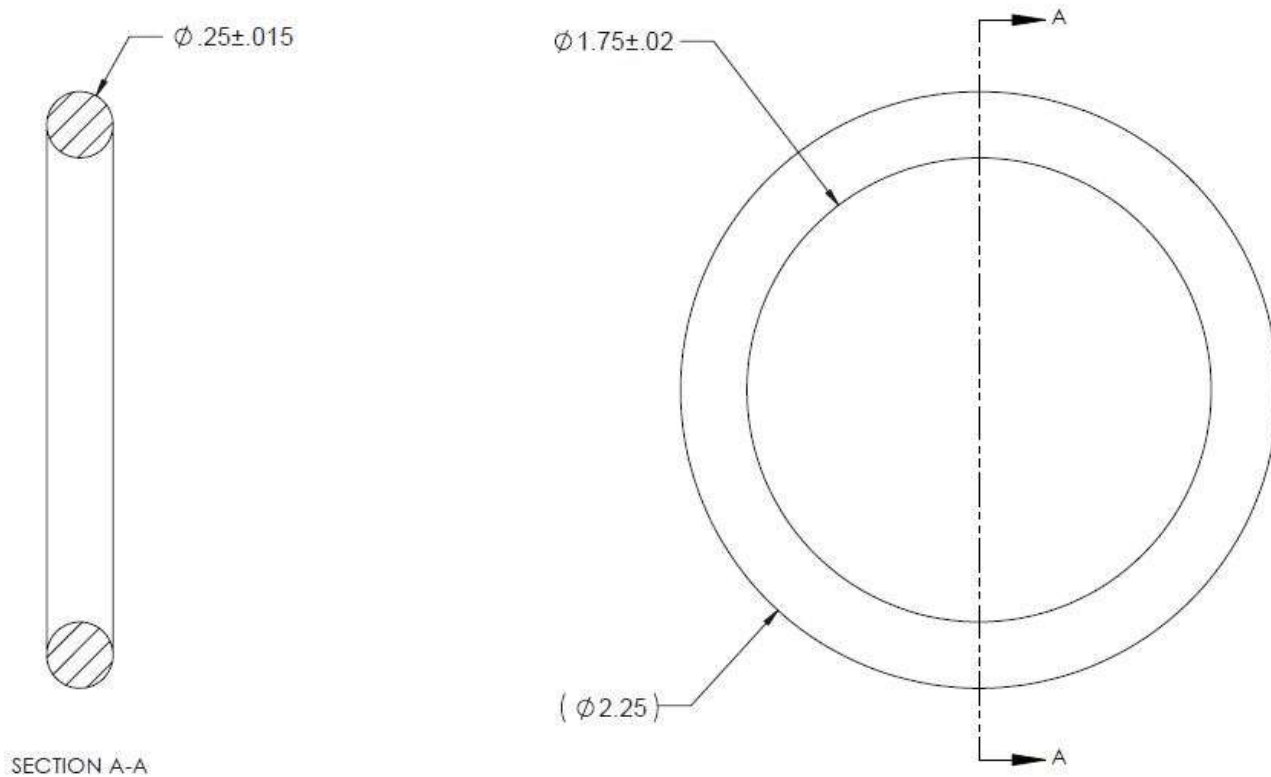

Figure 5.1: Pacific Aerial Tow Ring, P/N: 6131
(2) Tow Ring Inspection
- 2 Verify the Tow Ring being used is a Pacific Aerial Tow Ring, P/N: 6131. The Tow Ring should have a 2.25 inch outer diameter and a 0.25 inch diameter cross section, see Figure 5.1. The Tow Ring is also forged, heat treated, and proof loaded.